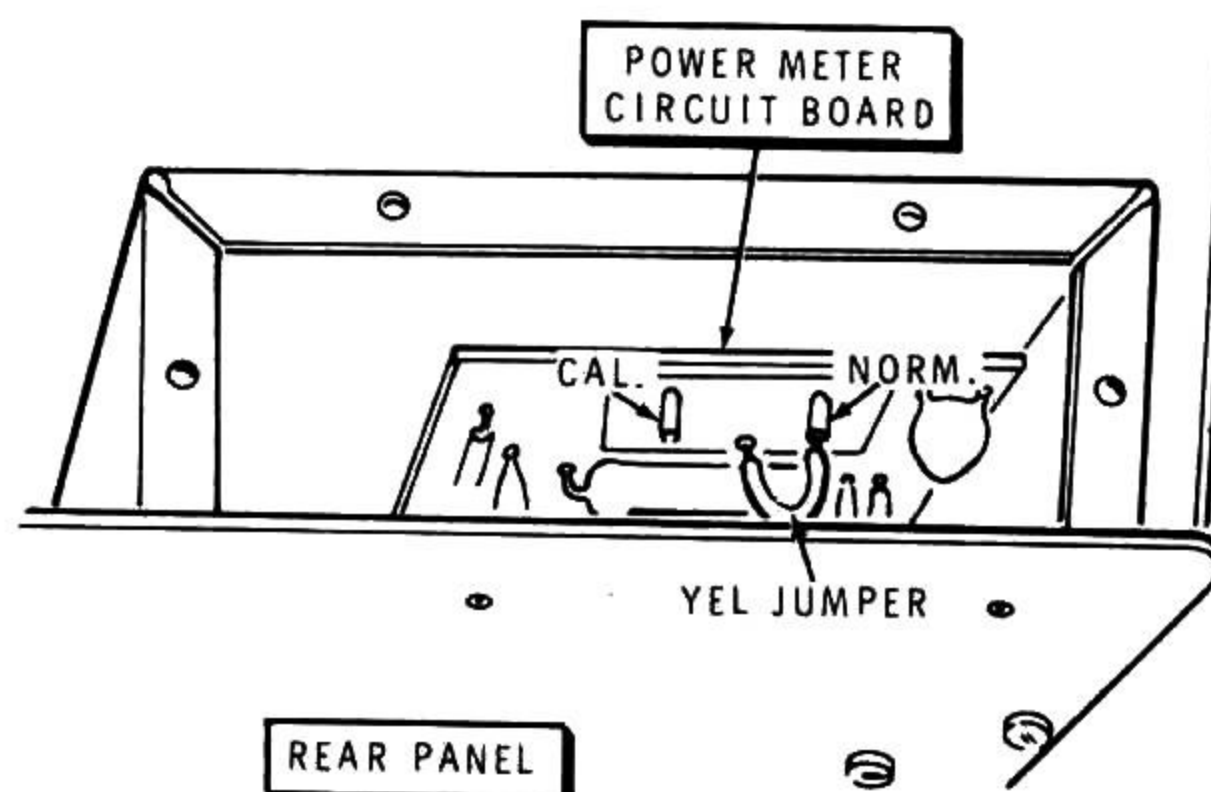

Figure 3
2. Refer to Figure 3 and note the yellow jumper wire on the power meter circuit board. Unsolder the end of this wire that is connected to the pin marked NORM. Then temporarily solder it to the circuit board pin marked CAL.